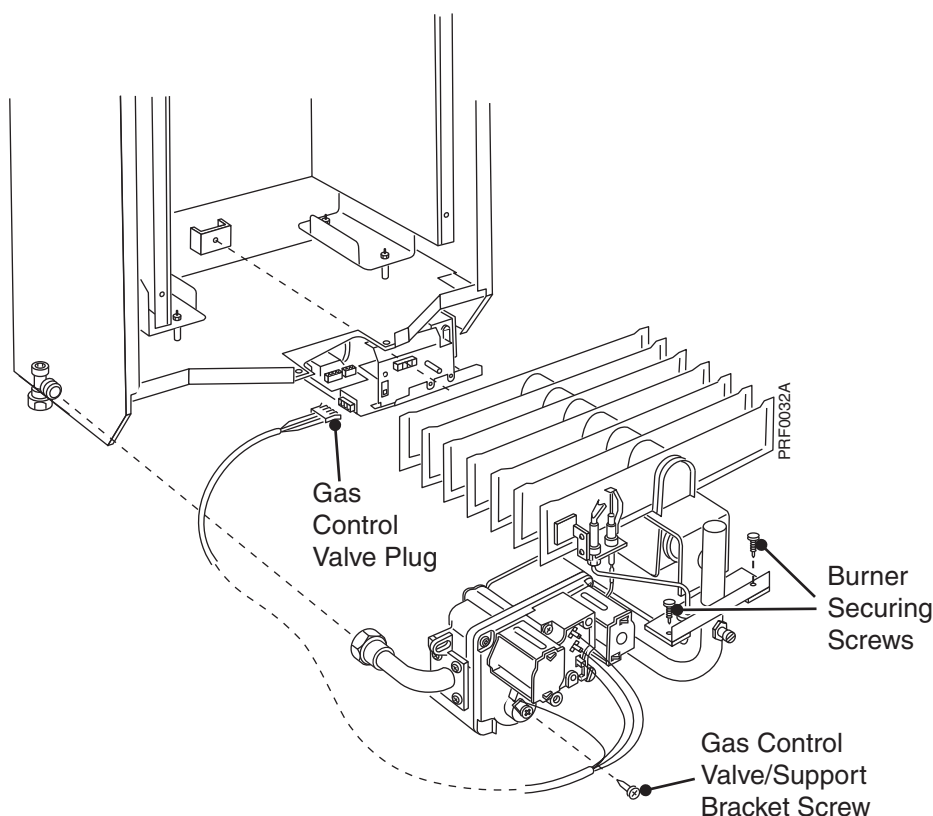

Fig. 29
- J. Unplug the electrical supply leads for the gas control valve from the control box. See Fig. 29.
- K. Remove the screw securing the gas control valve to its support bracket. See Fig. 29.